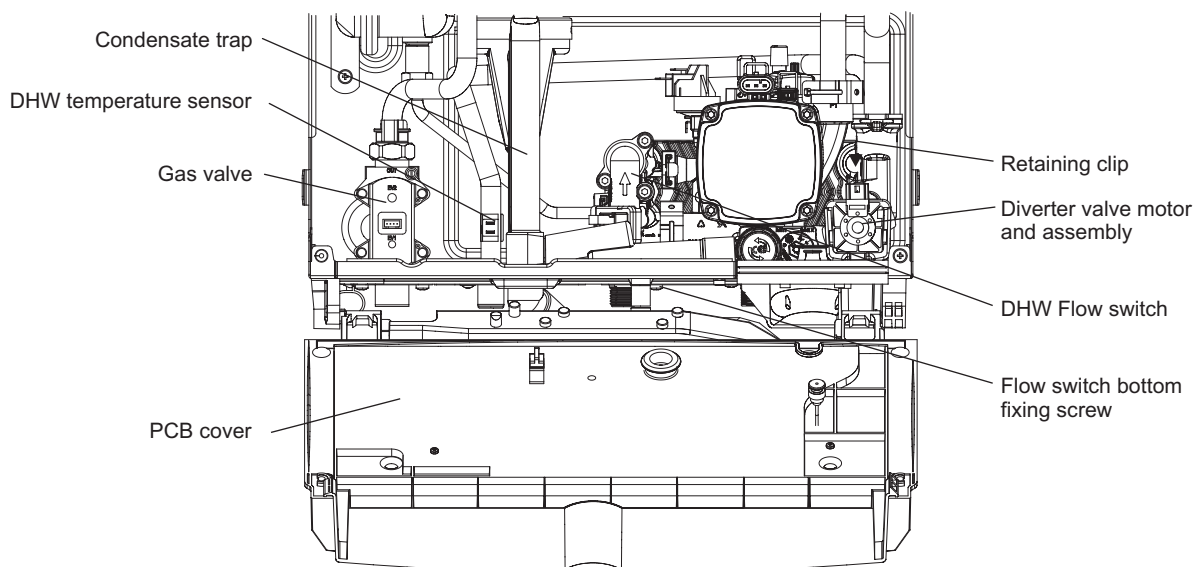

Fig. 7.2
2. Remove the three retaining screws in the PCB cover and remove cover. See Fig. 7.2.
## 7.10 DHW TEMPERATURE SENSOR - Fig. 7.2
1. The DHW sensor is positioned in the hot water outlet pipe to the left of the flow switch, see Fig. 7.2. Unplug the two connections and unclip the sensor from the pipe.
### 7.12 DHW FLOW SWITCH - Fig. 7.2
### **7.21 DIVERTER VALVE MOTOR - Fig. 7.2**
### **7.22 DIVERTER VALVE CARTRIDGE - Fig. 7.2**